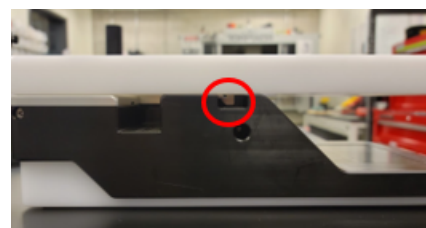

Figure 52: Fully Engaged Latch
8. To complete assembly, swing the arm of the flow cell assembly tool down until the latches on either side have engaged (Figure 52). Once engaged, both green release buttons pop out.